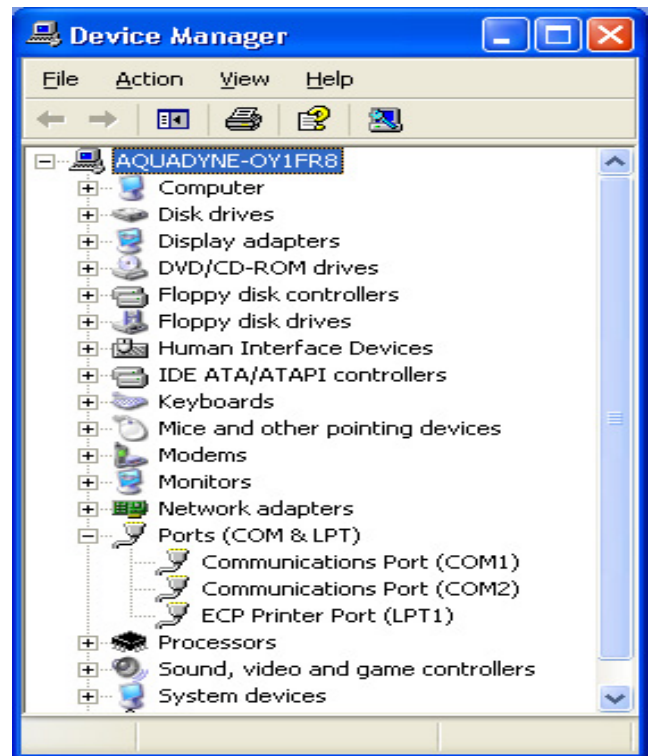

Figure 1.16 System Properties
1. Display Hardware from the Device Manager on your PC; figure 1.16.